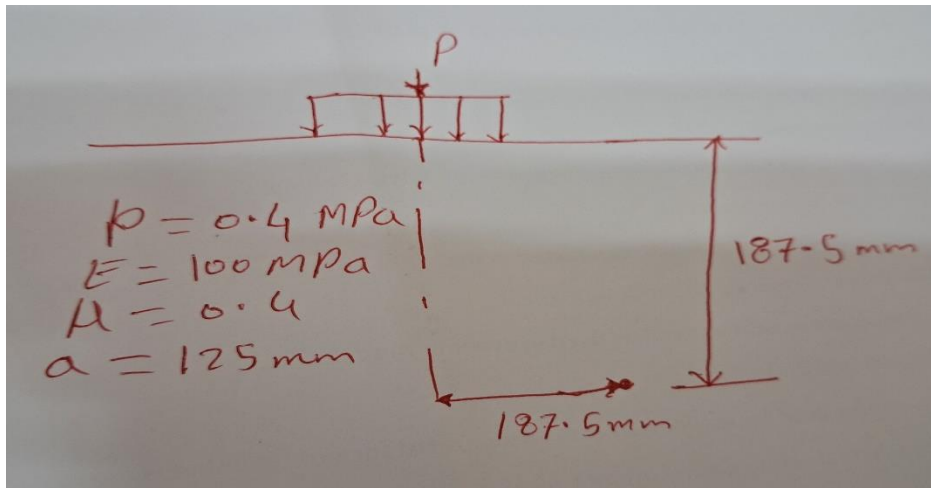

Figure 1: One-layer pavement system
Q. 3. For a one-layer pavement system shown in Figure 1, estimate the following stresses and strain using the Ahlvin and Ulery equations.